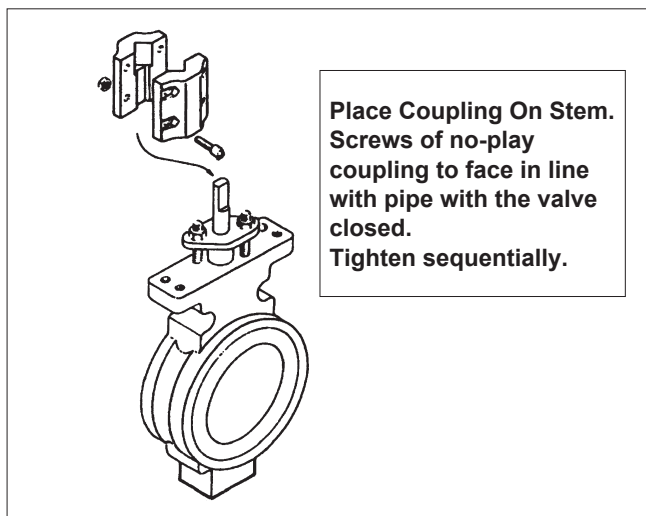

Figure 13.
2. Assemble bracket to actuator as shown in **(Figure 13)**. Tighten to torque listed in **(Table 5)**.